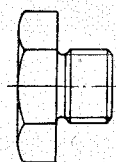

Fig. 68.
- a) the bolt Part No. 7114.50 (Fig. 68), the tractor being fitted with the hydraulic power lift only;